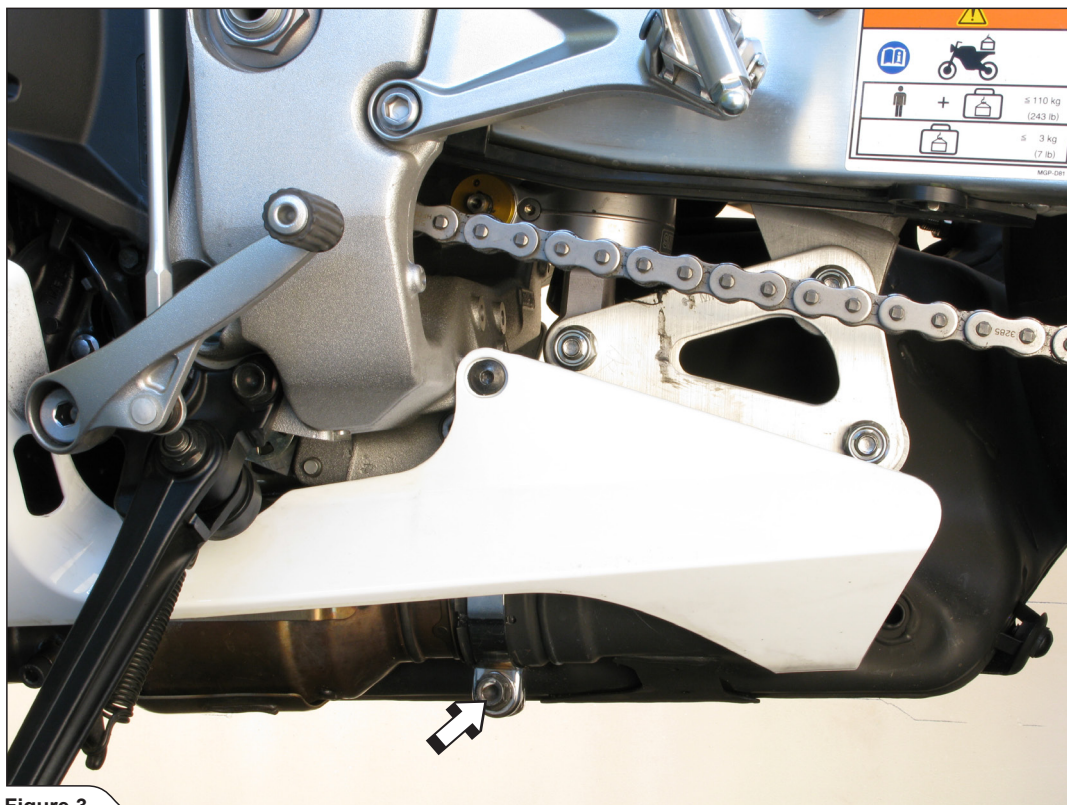

Figure 3
4. Loosen the marked clamp (Figure 3).